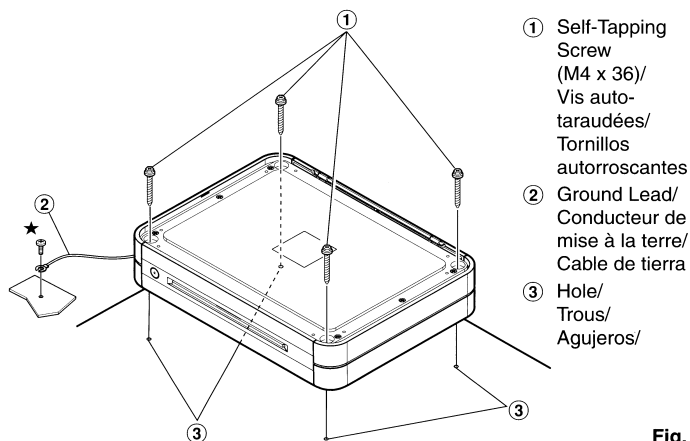

Fig. 2
3. Fasten the unit down with the four self-tapping screws (M4 x 36, supplied). Refer to Fig. 2.